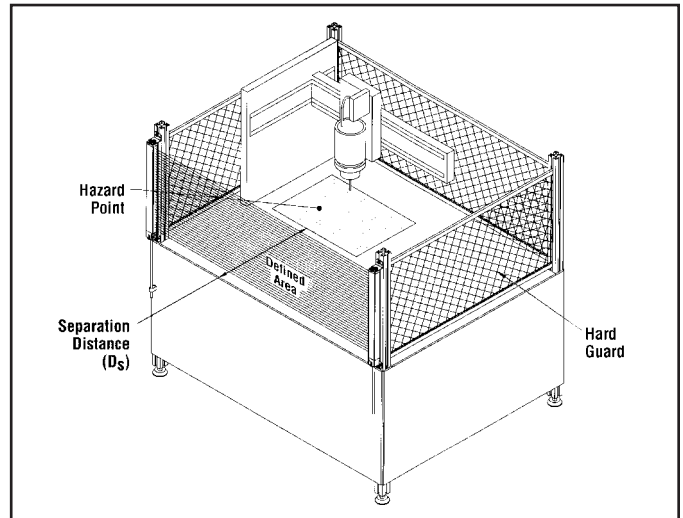

Figure 29. Calculation of D_s
- 2) Verify that the minimum separation distance from the closest danger point of the guarded machine to the defined area is not less than the calculated distance (see Figure 29, below).